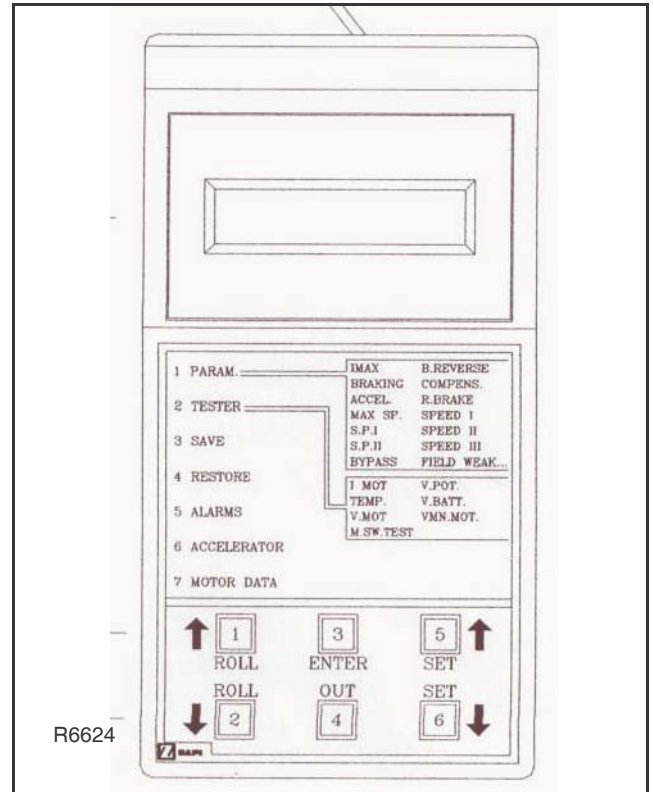

Figure 4-3 Zapi Handset
2. Press the ROLL up button (1, Figure 4-3) and the SET up button (5) at the same time to enter the CONFIG MENU.
3. Press the ROLL down button (1) or the ROLL up button (2) to find the ADJUSTMENTS display.
4. Press the ENTER button (3) to view the adjustments.
5. Press the ROLL down button (2) or the ROLL up button (1) to find the adjustment to be changed.
6. Press the SET up button (5) or the SET down button (6) until the desired value setting is reached. The adjustment is now set at the desired value.
7. Press the OUT button (4) to exit the adjustments.